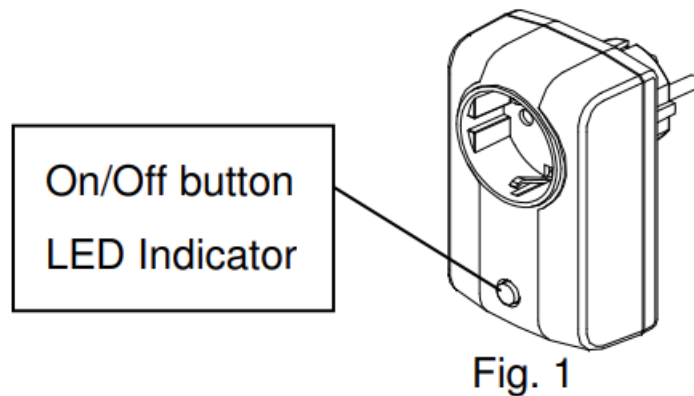

Fig. 1
1. In the front cover, there is an On/Off button with an LED indicator (Fig. 1).
7. **Note:** At the step (2), if you happen to press the On/Off button for less than 3 seconds, the Module will either turn to On or Off status depending on the last status of the On/Off button.
1. In the front cover, there is an On/Off button with LED indicator (Fig. 1).